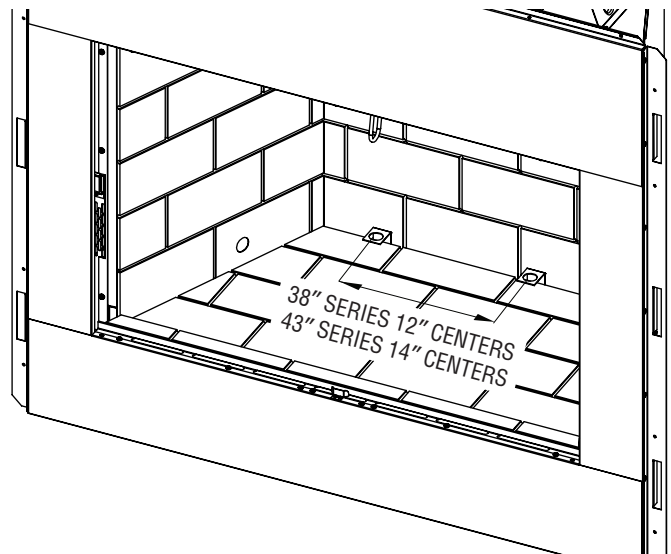
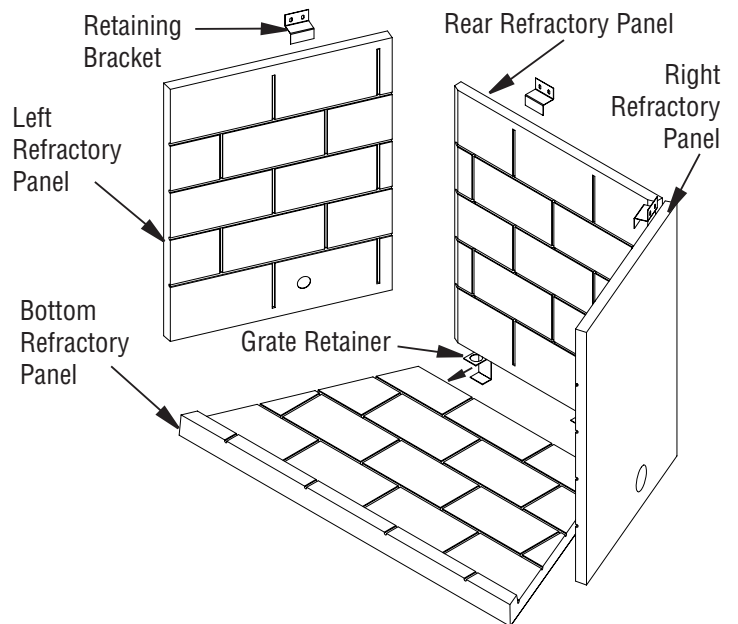
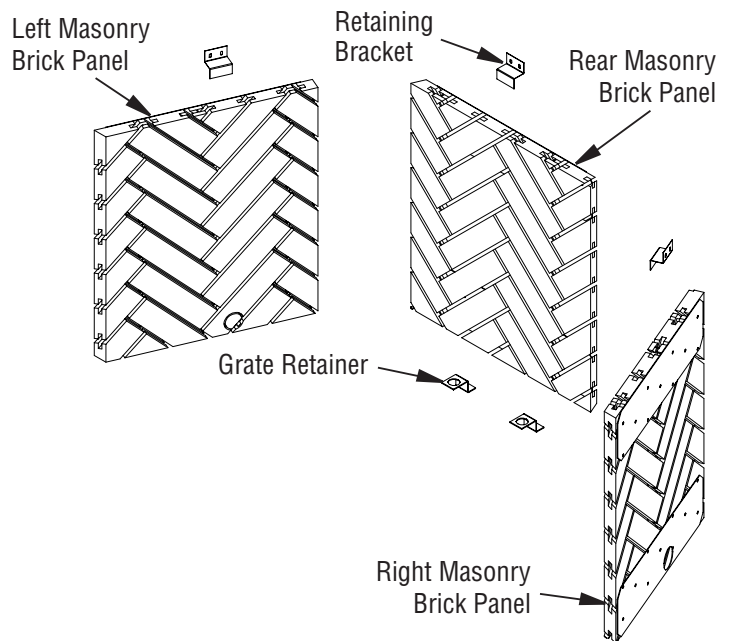

Figure 33 - Installing Grate Retainers
Figure 34 - Installing Refractory Panels
Figure 37 - Installing Masonry Brick Side and Rear Panels
3. Install rear refractory panel. This panel has a top and bottom. To determine which is the top or bottom, match up the pattern on the rear panel with the left and right sides before installing the rear panel. Align the left and right panels with the rear panel so the grout lines line up. Install the retaining bracket and tighten set screws (Figure 33).
4. Install the right and left refractory panels with the gas line knock-outs oriented toward the firebox bottom. Install the retaining brackets and tighten set screws (Figure 34).
5. Position grate retaining brackets toward the rear of the bottom refractory (see Figure 34). They should be positioned a distance apart as shown in Figure 33.
6. Install refractory hearth panel, insert the front of the panel tilted then slowly let the rear portion go down. Make sure the front of the hearth is flush with the fireplace and the grate retaining brackets are centered (see Figure 33)
3. Place the provided grate retainers on the masonry brick hearth as shown in Figure 37 and refer to Figure 33, page 17 for correct distance.
4. Install the rear masonry brick panel last. Place the rear masonry brick panel against the back of firebox align flush with left and right masonry brick panels and secure with retaining brackets and screws (provided) see Figure 37.